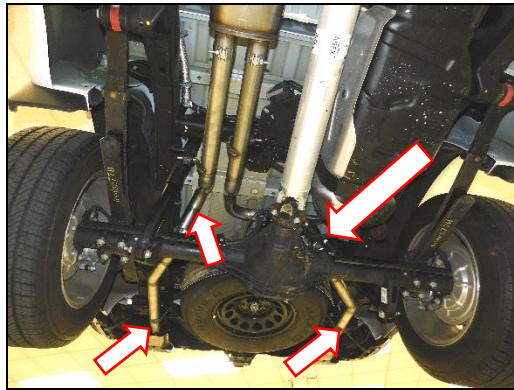

Figure 7
4. Install the (x2) supplied band clamps and install the right and left side tailpipes. Slide (x2) hangers in to the OE rubber isolators (**Figure 7**).